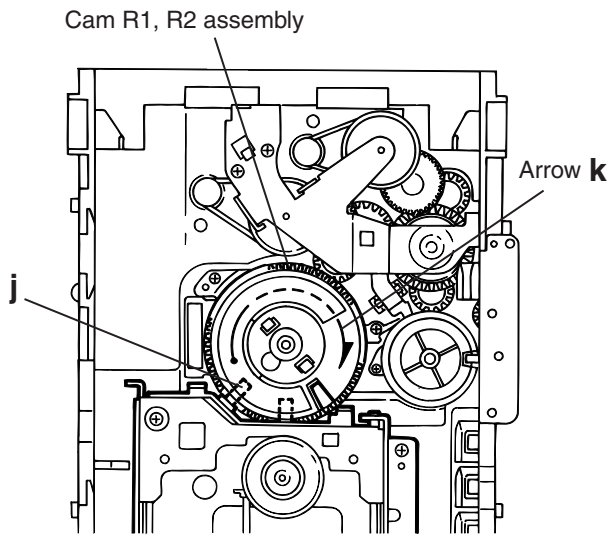

Fig.11
Removing the CD traverse mechanism (See Fig.11 and 12)
1. For dismantling only the CD traverse mechanism without removing the CD loading mechanism assembly, align the shaft "j" of the CD loading mechanism assembly to the position shown Fig.11 while turning the cam R1 and R2 assembly in the arrow direction "k".